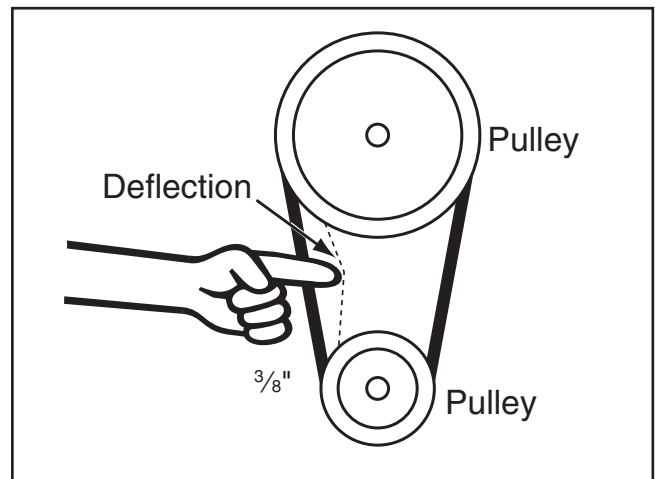

Figure 60. Testing belt tension.
- If deflection is approximately $\frac{3}{8}$ " with moderate pressure from your thumb or finger (**Figure 60**), then the tension is correct.